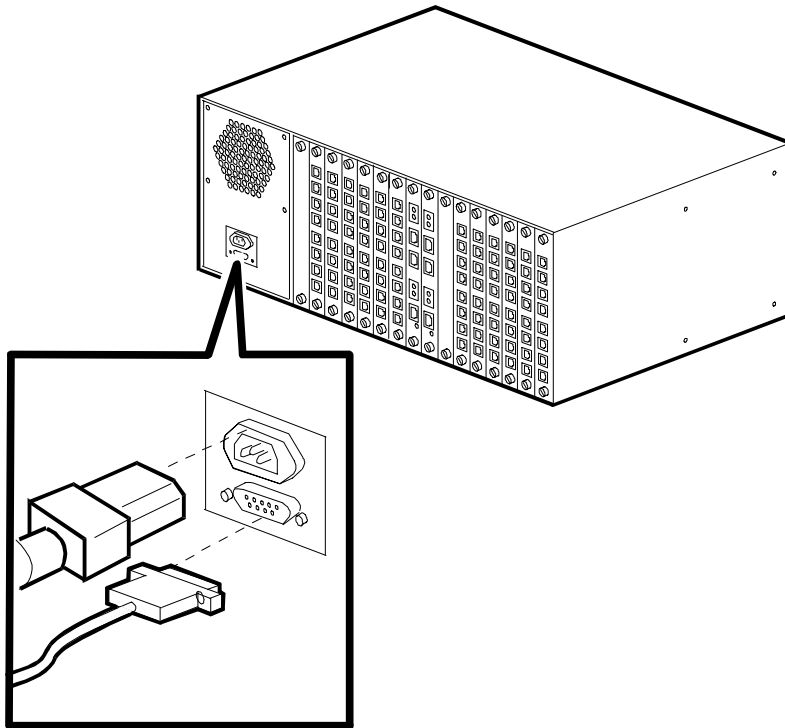

Figure 2-13. Attaching Power and Network Management Cables
1. Plug the female end of the power cord into its receptacle on the rear of the power supply. See Figure 2-13.
3. If you are attaching a local PC or modem to the chassis for network management, attach a DB9 connector of a serial network management cable (Compaq supplies a DB9 to DB9 serial cable with your chassis) to its connector on the rear of the power supply. See Figure 2-13.